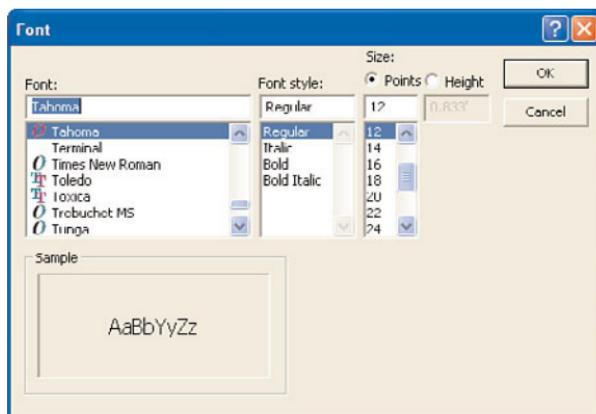

FIGURE 10.9 The Font dialog box.
11. Click the **Font** button. This opens the Font dialog box, as you see in Figure 10.9.